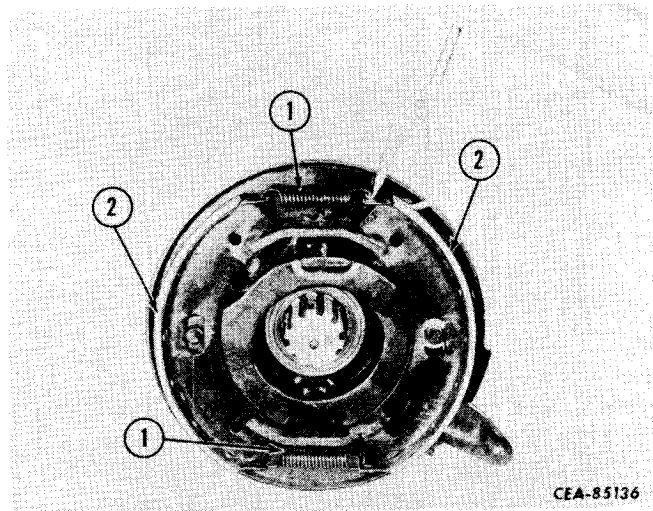

Figure 13-109
Install the brake shoes (2, Fig. 13-109) on the backing plate. Install the brake springs (1) on the shoes using a brake spring pliers. Be sure springs are installed in rear holes.